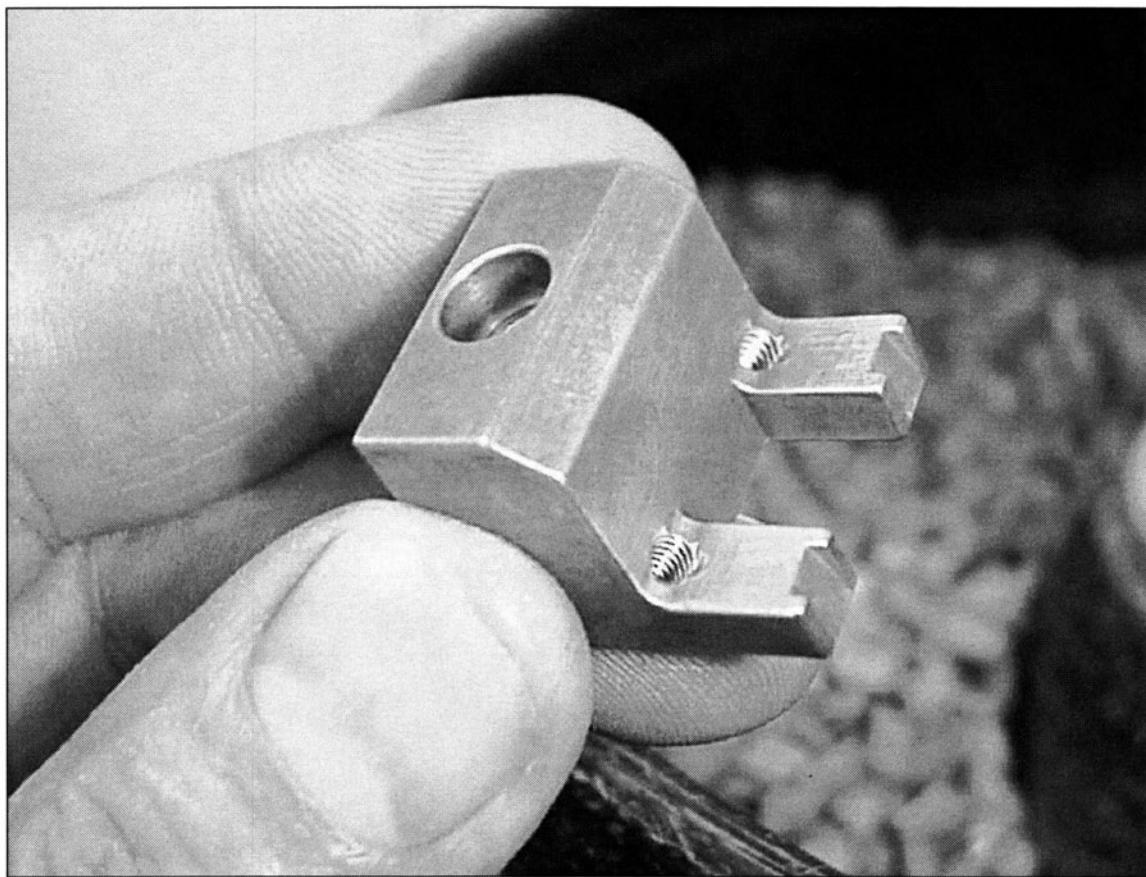

FIGURE 3-25 Tumblers don't work very well for removing heavy burrs but they work great for rounding sharp corners and edges.
36. *Deburr parts in a tumbler. (See Fig. 3-25)*